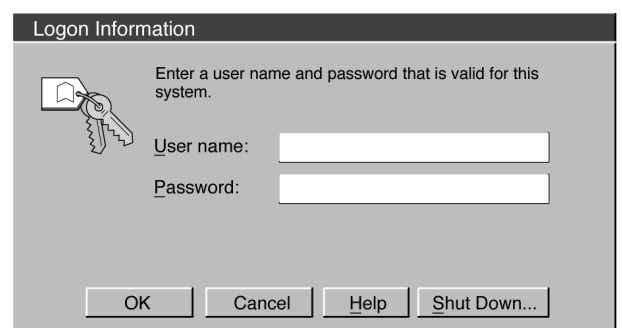

Fig. 3-4 Logon Information window
- The **Logon Information** window appears on the screen, permitting you to log on to the WINDOWS NT 4.0 operating system (Fig. 3-4).